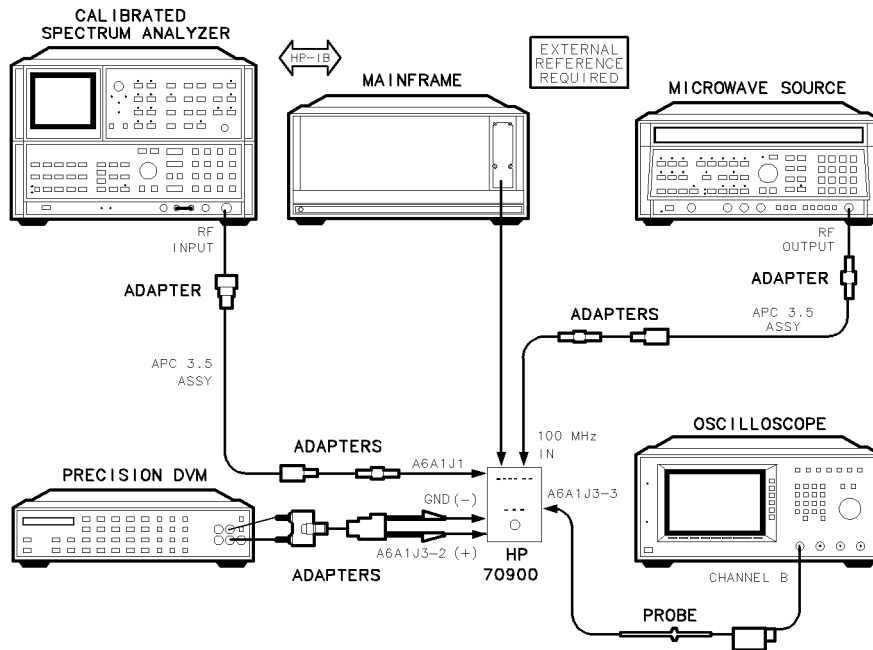
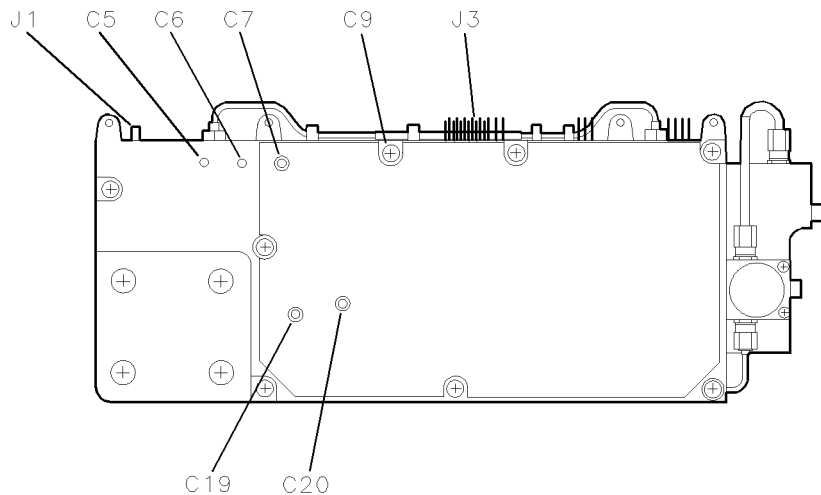

Figure 6-3.
Figure 6-4. Locations for Adjustment 02. 100 MHz Reference/300 MHz Bandpass Filter
10. Connect the test equipment as shown in Figure 6-3. Figure 6-4 illustrates the test points and adjustment locations on the A6A1 100 MHz reference. Connect the spectrum analyzer to A6A1 100 MHz reference (J1). Connect the positive DVM lead to A6A1 100 MHz reference (J3-2) and the negative lead to the chassis. Connect the oscilloscope probe to A6A1 100 MHz reference (J3-3) and the probe’s ground lead to the chassis. Connect the synthesized source to the local oscillator source’s rear panel 100 MHz jack. (This jack is electrically connected to A6A1 100 MHz reference (J2) through W9.)